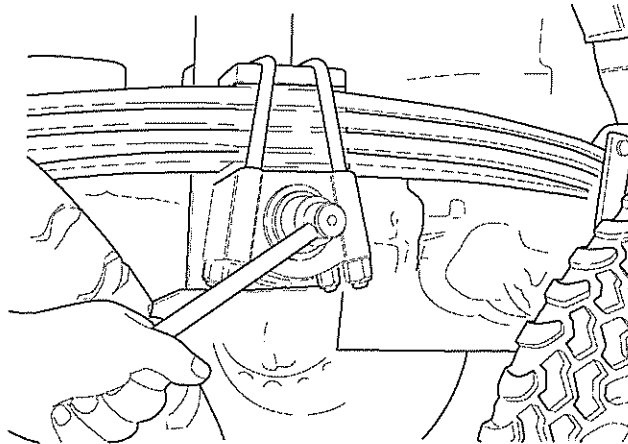

Fig 24 Spring bracket retaining screws
- 27.4 Loosen left and right spring bracket retaining screws and remove rear axle springs (see Fig 24).